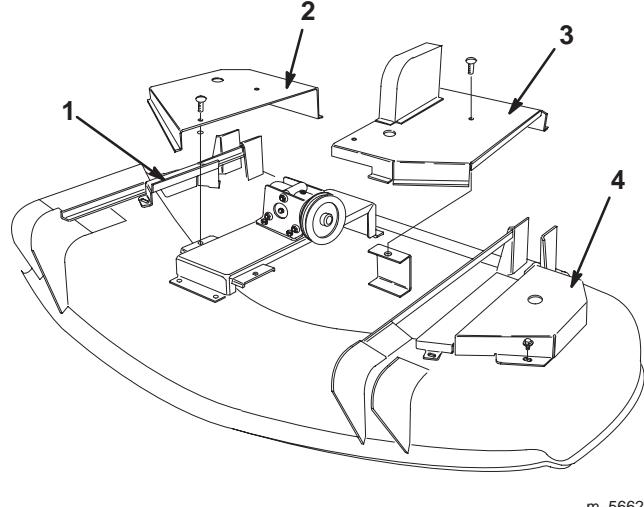

Figure 27
1. Loosen the fasteners holding the left and right center deck covers and remove both center deck covers (Fig. 27).
2. Remove the flange screws holding the left and right covers to the deck and remove both covers (Fig. 27).
1. Deck Belt	4. Spindle Pulley (3)
7. Install the four deck covers onto the cutting unit (Fig. 27).